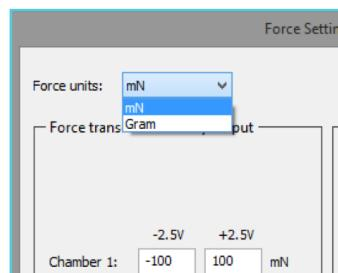

Figure 45: Selecting the force units for the digital output
- **Force Units:** The force recordings can be shown in mN or gram for users of digital output through the USB cable to Labchart as shown in figure 45.